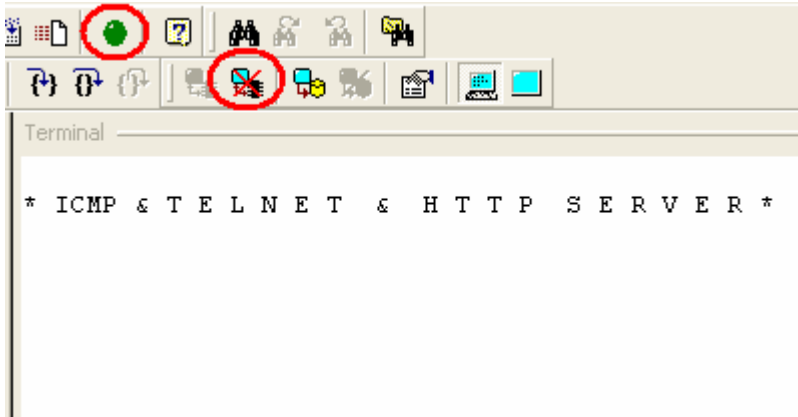

Figure 3
- 6) Connect Terminal Window and put board in RUN mode (change "Set Mode" button to GREEN LIGHT). Figure 3 shows RUN mode of MINI-MAX/51-E board.